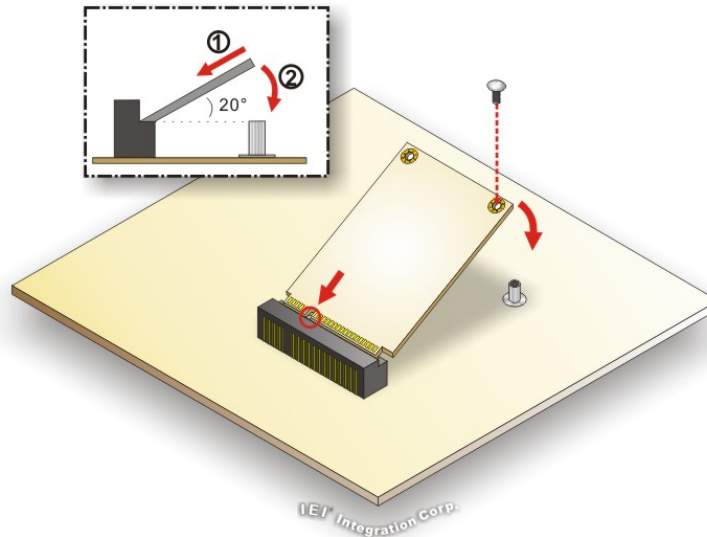

Figure 3-5: mSATA Module Installation
Step 3: Connect the SATA DOM with the SATA connector on the motherboard to install it. Either high-profile or low-profile SATA DOM can be installed into the PPC-F06B-BT. **Figure 3-5** shows that the system is installed with a high-profile SATA DOM.
Step 4: Secure the mSATA module with the retention screw. Push the other end of the mSATA module down and secure the module with the previously removed retention screw (**Figure 3-5**).